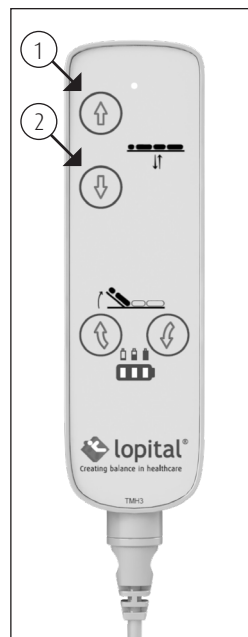

Figure 8 Hand control.
- If the client is lying on the shower trolley, first put the brake on the wheels and then move the trolley upwards (1) (See figure 8).
- Move the trolley upwards by pressing the button that shows an 'up' arrow. The trolley will then immediately move upwards (See figure 8).
- Move the trolley downwards by pressing the button that shows a 'down' arrow the trolley will immediately move downwards (2) (See figure 8).